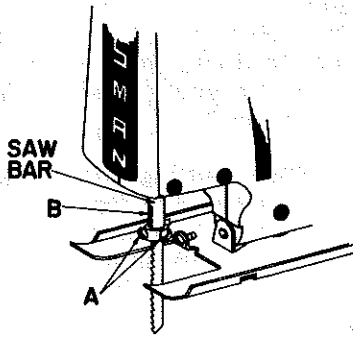

Fig. 1
1. See Figure 1. Loosen both blade screws (A) and insert saw blade as far as possible into slot (B) in saw bar.